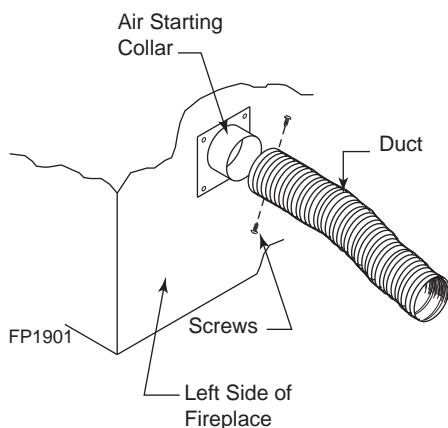

Figure 65 -
6. Select and cut a piece of duct long enough to attach to the fireplace and stick out at least 3" beyond the face of the wall to which the AK-4 inlet air vent will be attached. *Figure 65*